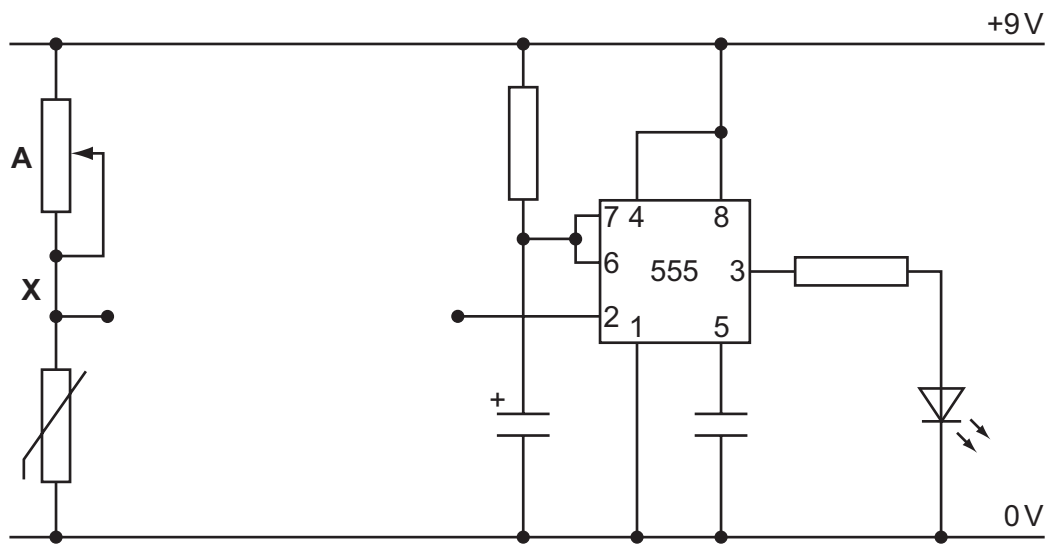

Fig. 19
- (b) A warning device is required to indicate when the temperature falls below a set level. The circuit shown in Fig. 19 is based on a 555 timer IC. When it has triggered, the warning LED will remain lit until the 555 timer resets.
- (iii) A transistor switch is used between point X and pin 2 of the timer. Complete the circuit in Fig. 19 to show the transistor switch connected. [3]